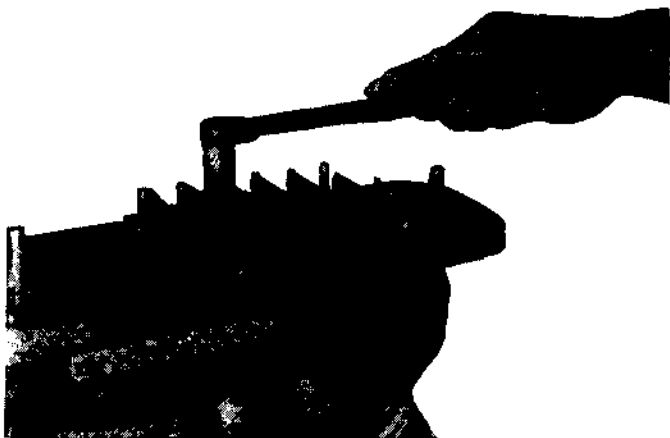

Figure 30
2. Disassemble the hex nuts, washers and buss bars from the top of the terminal studs (Figure 30).